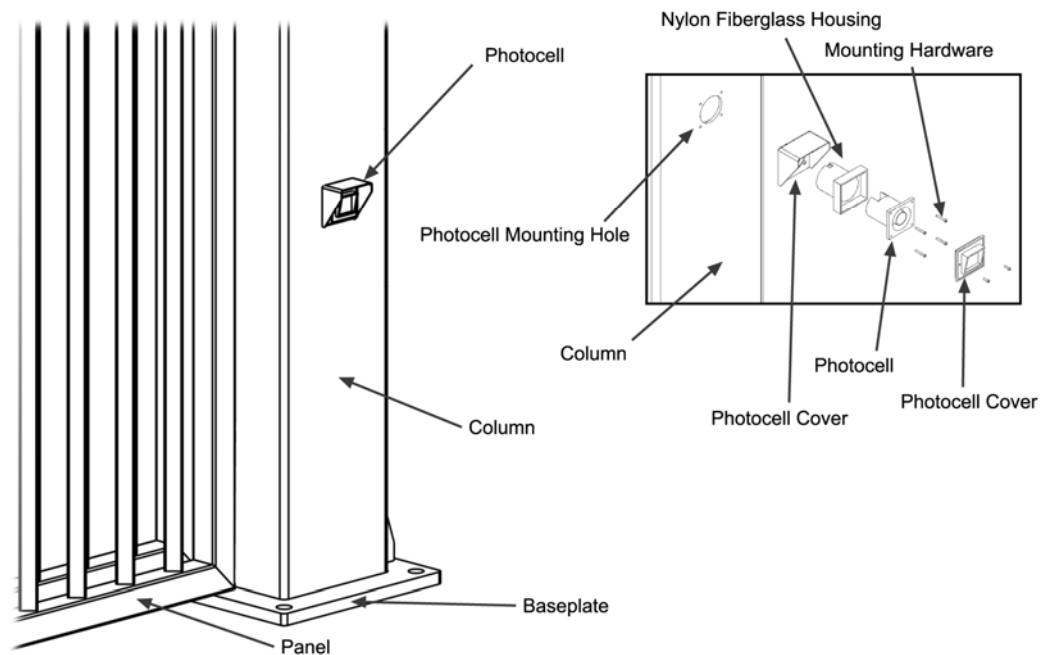

FIGURE 6.1
1. Mount nylon fiberglass body sandwiching the photocell cover between the nylon and the column into hole in column with provided hardware. (see figure 6.1)
2. Remove photocell from the nylon fiberglass housing by removing the 4 corner screws. (see figure 6.1) The photocell should slide out of the housing.